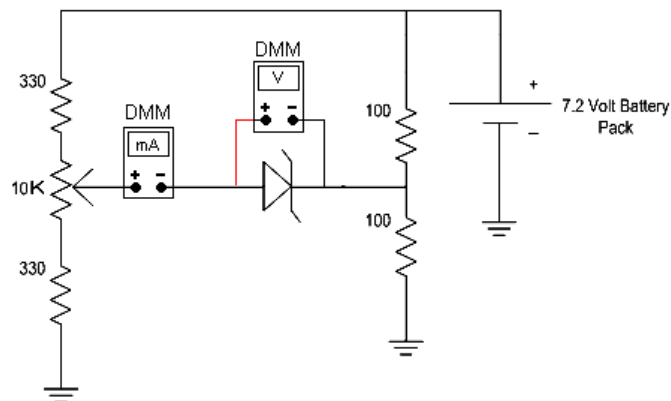

Figure 4.3: Schematic for testing the zener diode
1. Replace the diode in the first experiment with a zener diode. See Figure 4.3.